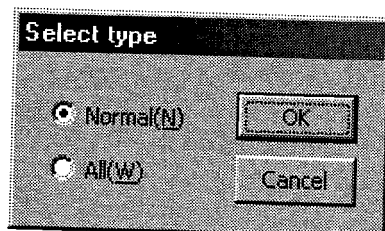

Figure 7.45 “Select type” dialog box
Click “Download (D)” in the “Index Comp” menu to display the “Select type” dialog box (see Figure 7.45).